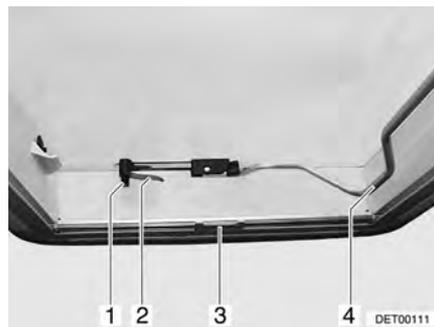
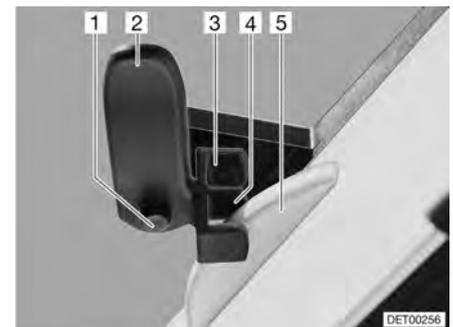

Fig. 63 Heki skylight, closed
Fig. 64 Heki skylight in ventilation position 1
Opening: ■ Press the safety knob (Fig. 63,1) and turn the catch lever (Fig. 63,2) one quarter turn inward.
■ Pull the bar (Fig. 63,4) downwards out of the latch.
Closing: ■ Pull the bar (Fig. 63,4) downwards out of the latch.
■ Turn the catch lever (Fig. 63,2 and Fig. 64,2) one quarter turn. The hook of the roof lock (Fig. 64,5) must engage in the upper locking fork (Fig. 64,3).
■ Press the safety knob (Fig. 64,1) and turn the catch lever (Fig. 64,2) back. The hook of the roof lock (Fig. 64,5) must engage in the lower locking fork (Fig. 64,4).